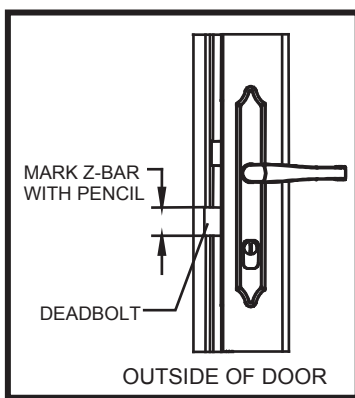

FIGURE 8
B. With the door open, extend the deadbolt fully. Carefully close door until deadbolt contacts the z-bar. With a pencil, mark the location of the top and bottom of the deadbolt onto the z-bar. **See Fig. 8.** Return the deadbolt to the fully retracted position.